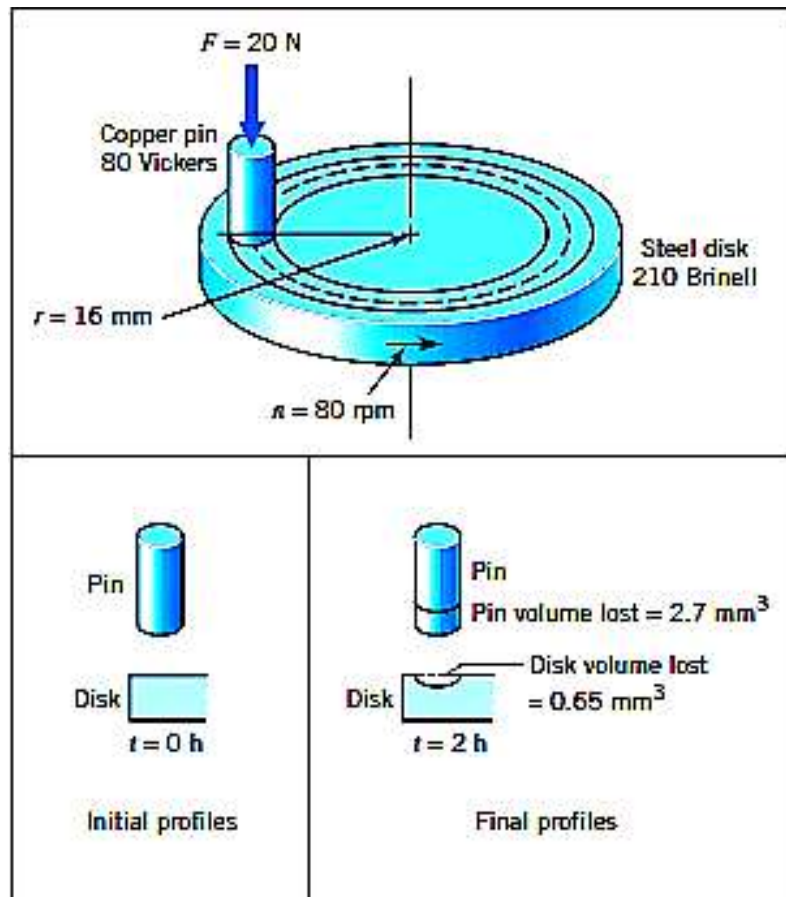

Figure : 1
- (c) A pin-on-disk friction testing apparatus as shown in **figure 1** involves the unlubricated rounded end of a copper pin of 80 Vickers hardness being pressed with a force of 20 N against the surface of a rotating steel disk of 210 Brinell hardness. The rubbing contact is at a radius of 16 mm; the disk rotates 80 rpm. After 2 hours the pin and disk are weighed. It is determined that adhesive wear has caused weight losses equivalent to wear volumes of 2.7 mm³ and 0.65 mm³ for the copper and steel, respectively. Compute the wear coefficients. **07**